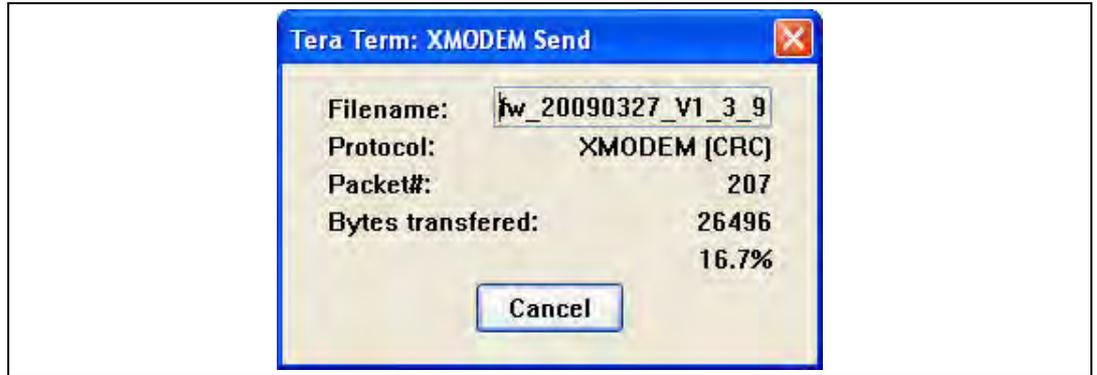

Figure 6.6 Tera Term XMODEM Send Dialog Box
11. In the **XMODEM Send** dialog box, use the **Look in:** menu to navigate to and select the location to which you downloaded the ITS-DX4020-G binary file. Refer to *Figure 6.6*, *Page 39*.